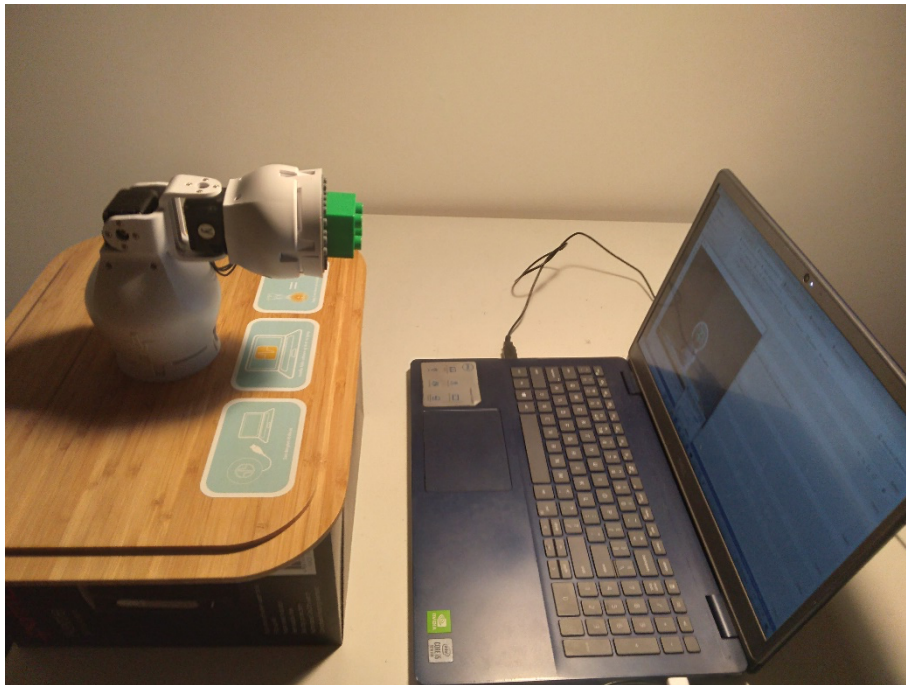

Figure 1
- Then give -90 degrees of rotation for the X angle towards the webcam. (See figure 1.) Throughout the whole process, keep the X angle as this way.